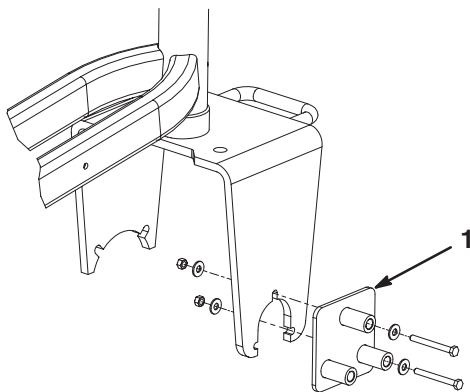

Figure 3
1. Mount the drill guide to the left side of the castor fork with (2) 5/16 x 3 in. bolts, (4) 3/8 x 7/8 washers and nuts. Position the components as shown in figure 3.